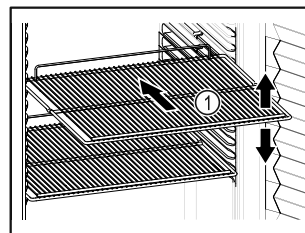

Fig. 58 Example illustration
- ☐ If there are adjustable shelves Fig. 58 (1), position them as required.